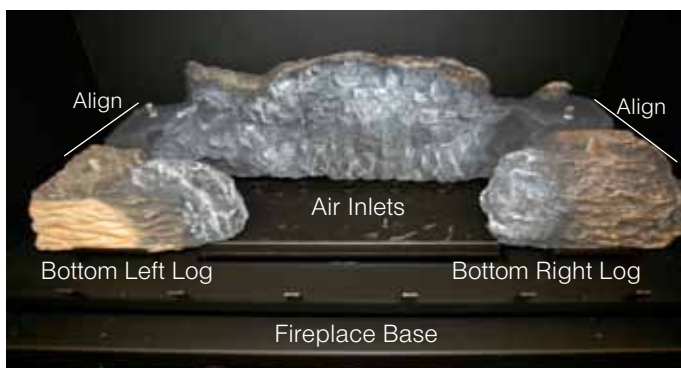

Figure 35b. Placing Bottom Right / Left Logs.
Step 3. Place the bottom Right and Left logs as shown in **figure 35b**.
Arrange the ember chips on top of the burner tray. Care should be taken when placing the embers, as blocked burner ports may cause an incorrect flame pattern, carbon deposits and delayed ignition. Also, the embers must never be placed in a way that obstructs any of the air inlet ports, located at the rear of the burner, as shown in **figure 35b**.